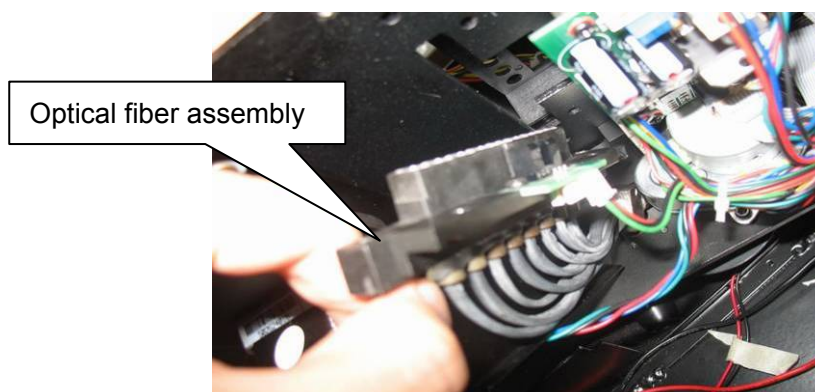

Figure 3-36
- 7、 Lift the platform; take out the optical fiber assembly, as shown in figure 3-36.